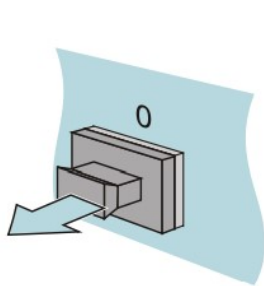

Figure 9: Take out the SFP transceiver cap
- Take the SFP transceiver out of the transport packaging, refer to figure 9 below.